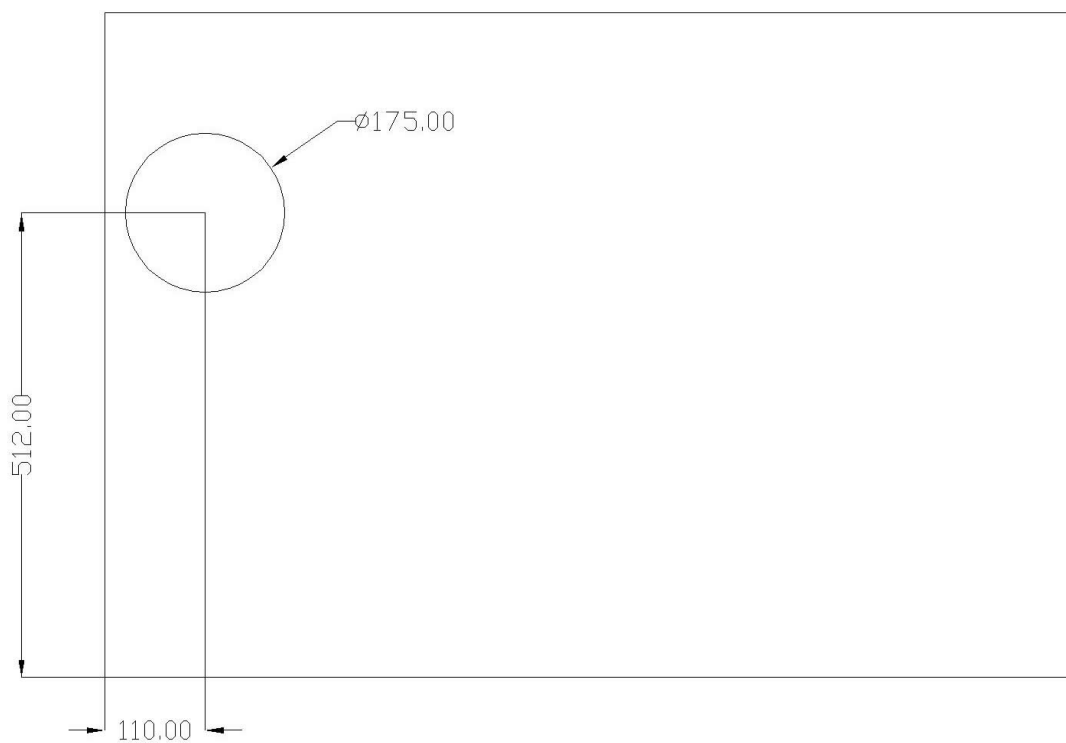

Fig 1: Rear of heater showing exact location of flue (shown from rear).
4. Refer to figure 1, and continue as described on previous page.